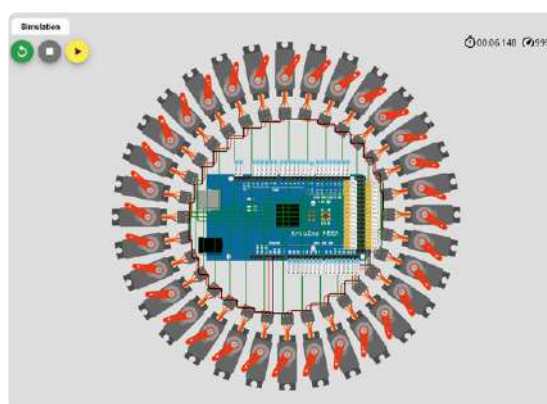
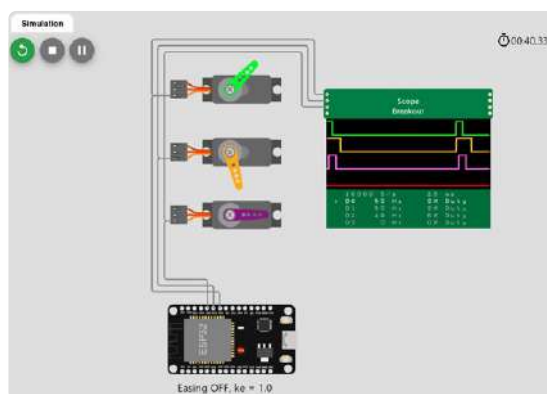

Figure 7: 32 dancing servos, driven by an Arduino Mega board.
Figure 8: The Scope chip, showing servo signals in real time.
**Uri Shaked:** Hard to choose, but if I had to go with just one, that would be *32 Servos Dancing* [6], also visible in **Figure 7** — an Arduino Mega controlling 32 servos and animating their arms. The project is more of an art project than a useful one. That's what I love about this project. Building it in real life would require a beefy power supply and spending a few hundred euro on parts, but, in the simulator, it's a no-brainer. Just click *Play* and see it in action. To spice things up, even the diagram for this project was generated by the Arduino code. Take a look at the `GenerateDiagram()` function, using trigonometric functions to place the servos. It prints a JSON file, which you can then paste into *diagram.json* in your Wokwi project, providing both the circuit and its visual representation. Now that's what I call innovative engineering! Speaking of user creativity: Wokwi provides a Custom Chips API [7], allowing you to code new simulation models for parts that do not yet exist in the simulation. The API provides a framebuffer interface, which allows you to create your own displays (LCD, E-Paper, etc.). What I didn't anticipate is that users will create their own oscilloscope using the framebuffer interface, as shown in **Figure 8**.